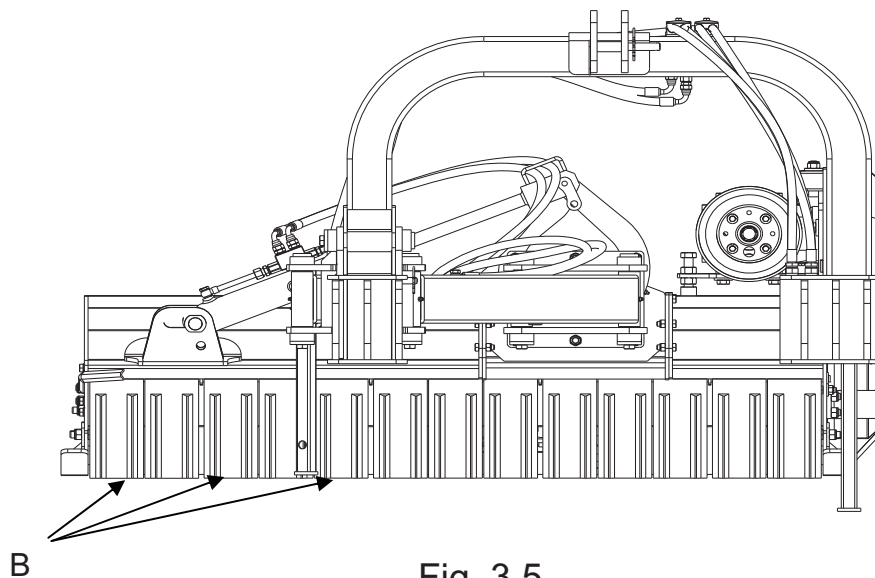

Fig. 3.5
d) PROTECTION OPÉRATEUR (fig. 3.5)